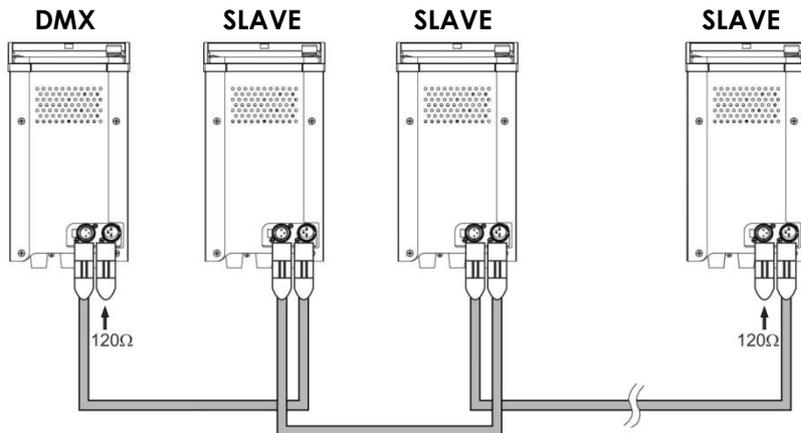

Fig. 6
1. Link the units as shown in (Fig. 6), connect a DMX signal cable from the first unit's DMX "out" socket to the second unit's "in" socket. Repeat this process to link the second, third, and fourth units. You can use the same functions on the master device as described on page 18/19 (static colors/ built-in programs). This means on the master device you can set your desired operation Mode and all slave devices will react the same as the master device.